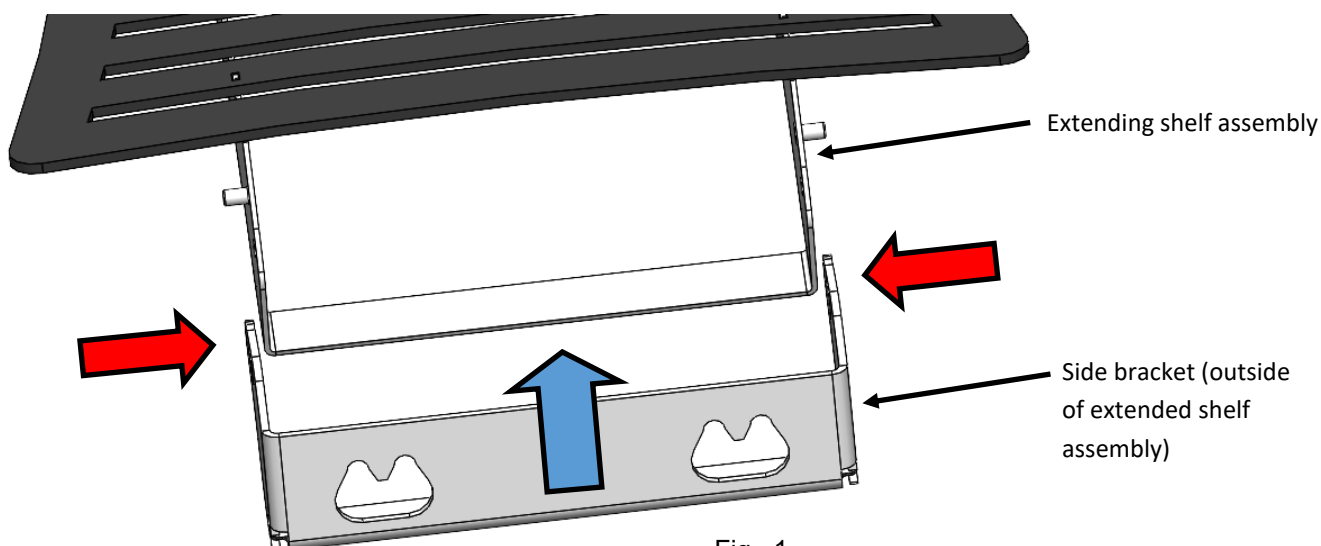

Fig . 1 .
Step 1 : Take 1x side bracket and 1x extending shelf, position the side bracket over the extending shelf, align the slotted holes in the bracket with the round holes in the extended shelf. See Fig. 1.